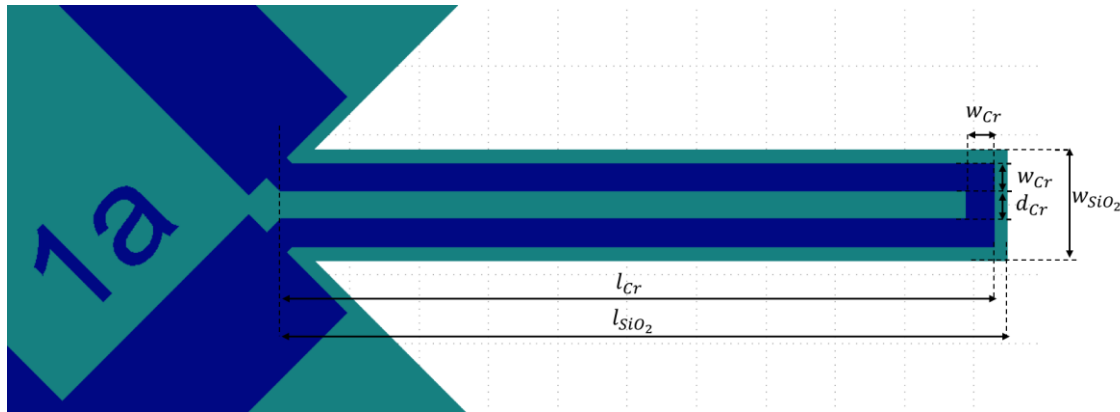

Figure 5 Dimensions of the actuator 1a.
The dimensions of the actuators are reported in Table 2 and the schematic of the actuator 1a is illustrated in Figure 5.
5. Estimate the resonance frequency of both standard micro-fabricated cantilevers 1a and 2a (see design in Figure 5). To do so, use the formulas below. An approach you can follow consists in transforming the 2-material structure into an equivalent 1-material structure as described in the section §9.1 *Composite Cross-Sections* of the reference [13]. You'll also need to evaluate the total area moment of inertia for the two materials. Report the total area moment of inertia I , the spring constant k , the mass of the structure m and the resonance frequency f . (Note that obtaining a fully expanded analytical formula relating the dimensions of the cantilevers to the resonance frequency is not expected as this will result in a quite heavy formula, but it might help you in the next session when you'll need to modify the geometry of the cantilevers to tune the resonance frequency.)